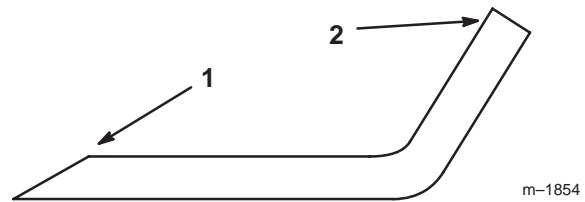
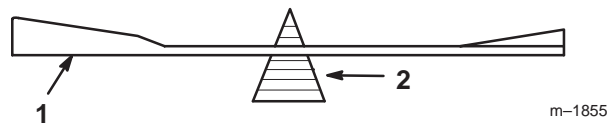

Figure 22
Figure 23
1. Use a file to sharpen the cutting edge at both ends of the blade (Fig. 22). Maintain the original angle. The blade retains its balance if the same amount of material is removed from both cutting edges.
2. Check the balance of the blade by putting it on a blade balancer (Fig. 23). If the blade stays in a horizontal position, the blade is balanced and can be used. If the blade is not balanced, file some metal off the end of the sail area only (Fig. 22). Repeat this step until the blade is balanced.